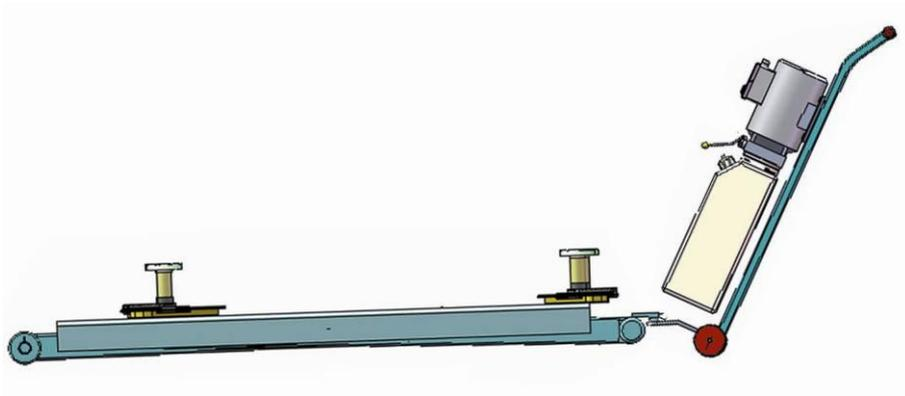

Fig. 22
4. Move the lift with the power unit stand (See Fig. 22)